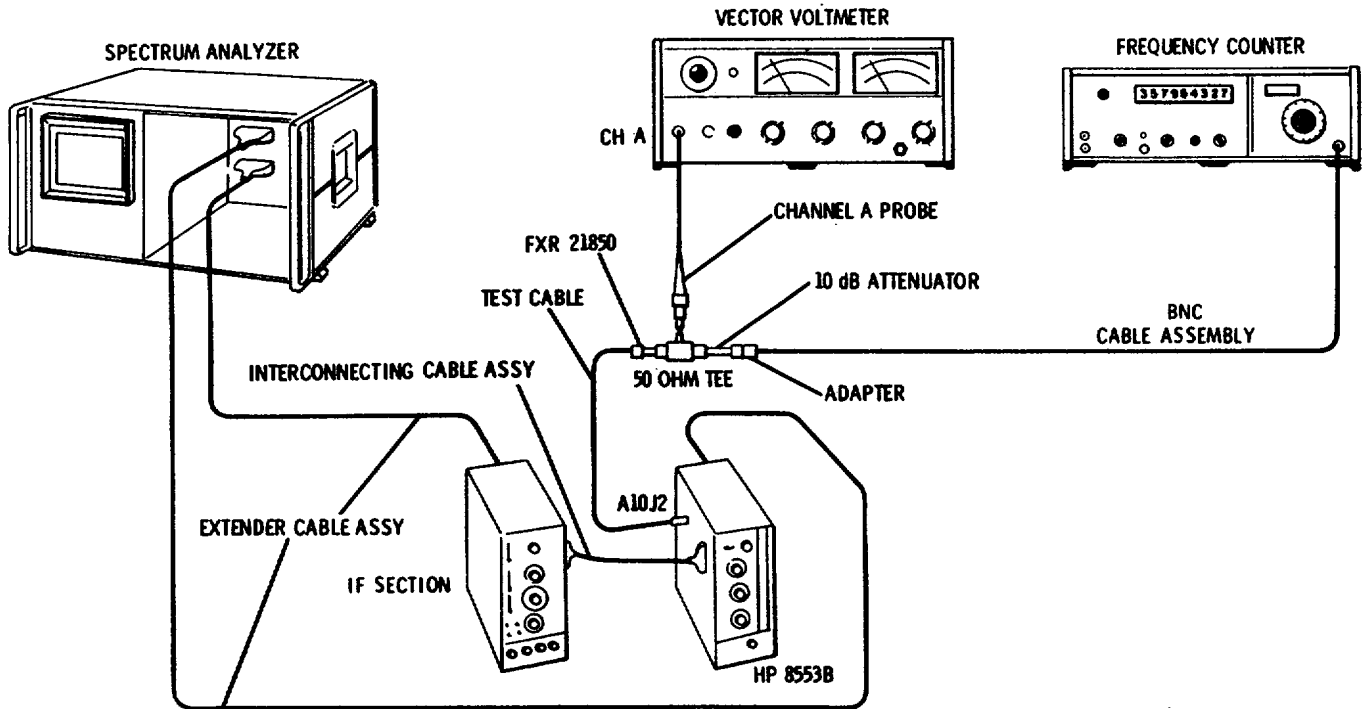

Figure 5-6. 150 MHz Oscillator Adjustment Test Setup
1. Connect test setup in Figure 5-6. Make the following control settings.